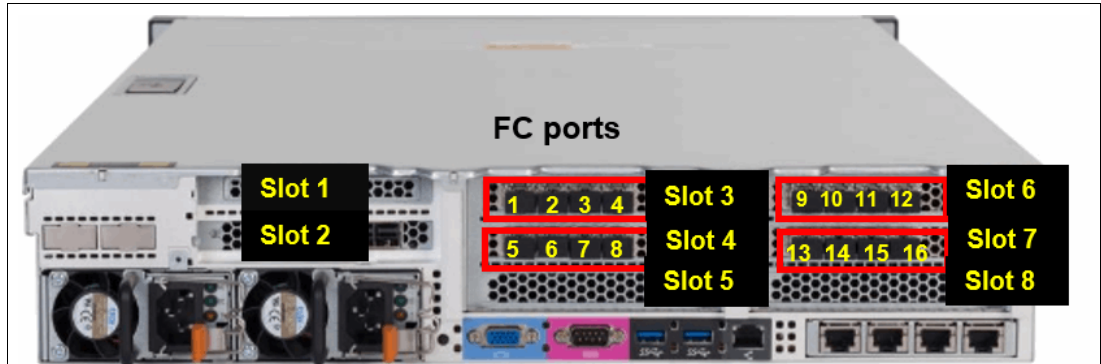

Figure 2-9 SAN Volume Controller 2145-SV1 rear port view
The IBM SAN Volume Controller can have up to four quad Fibre Channel (FC) host bus adapter (HBA) cards (16 FC ports) per node. Figure 2-9 shows the port location in the rear view of the 2145-SV1 node.